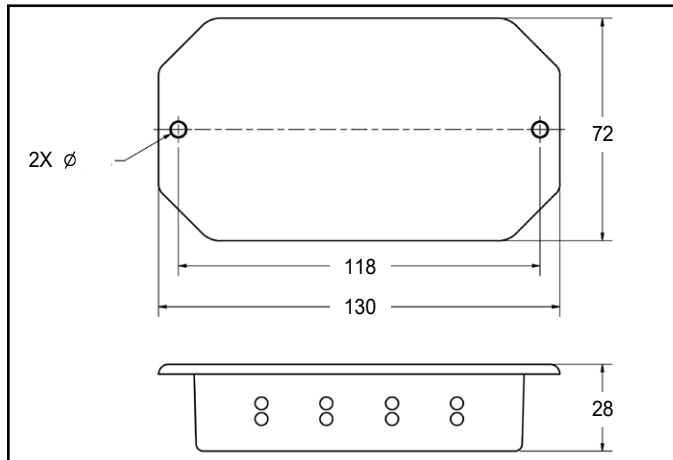

Figure 4. Mounting hole locations of the Control Unit (dimensions in mm)
1. Follow the dimensions listed in figures 4 and 5 to properly mount the Dual Operator Monitor's Control Unit and Satellite Remotes.